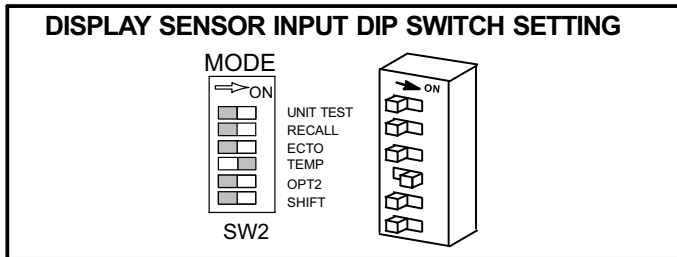

FIGURE 53
- 1- Turn the Unit Controller MODE DIP "TEMP" switch ON. See figure 53. The Unit Controller display will alternately flash from sensor readout to output value.